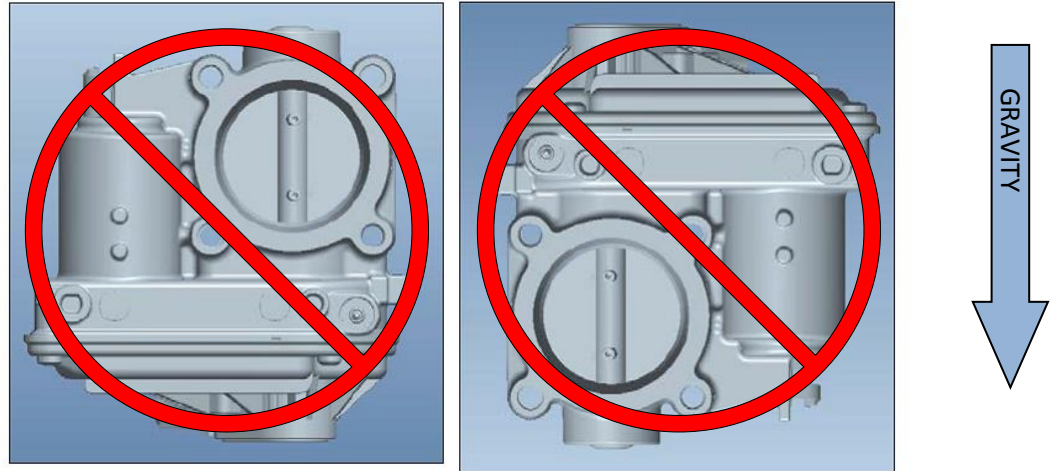

Figure 4-1. ETB Mounting with Shaft in Vertical Position (Not Recommended)
1. The ETB should be mounted such that the throttle shaft is horizontal. Mounting the ETB with the shaft in a vertical position is NOT recommended. See **Figure 4-1**.